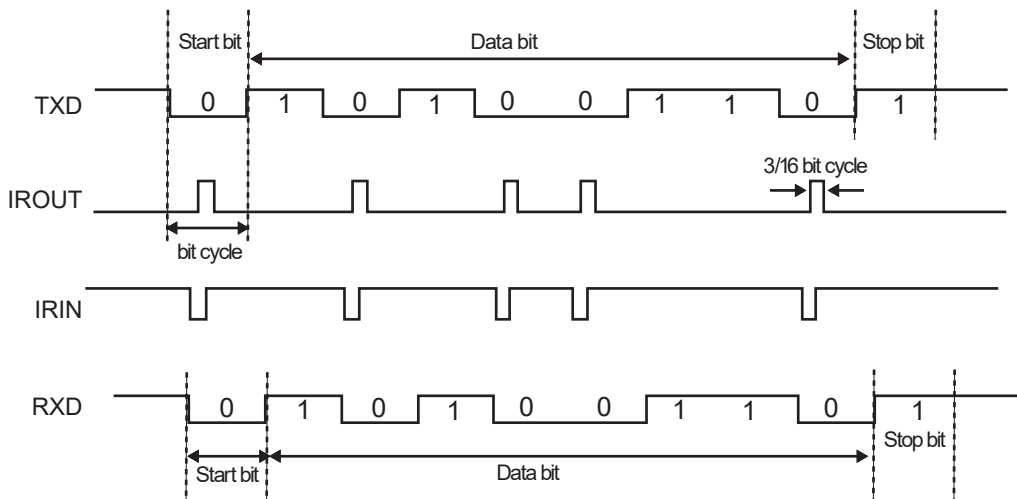

Figure 13-4 IrDA Data Modulation
**Note:**The transmit encoder output (IROUT) has the opposite polarity to the receive decoder input (IRIN). Please refer to Figure 13-4